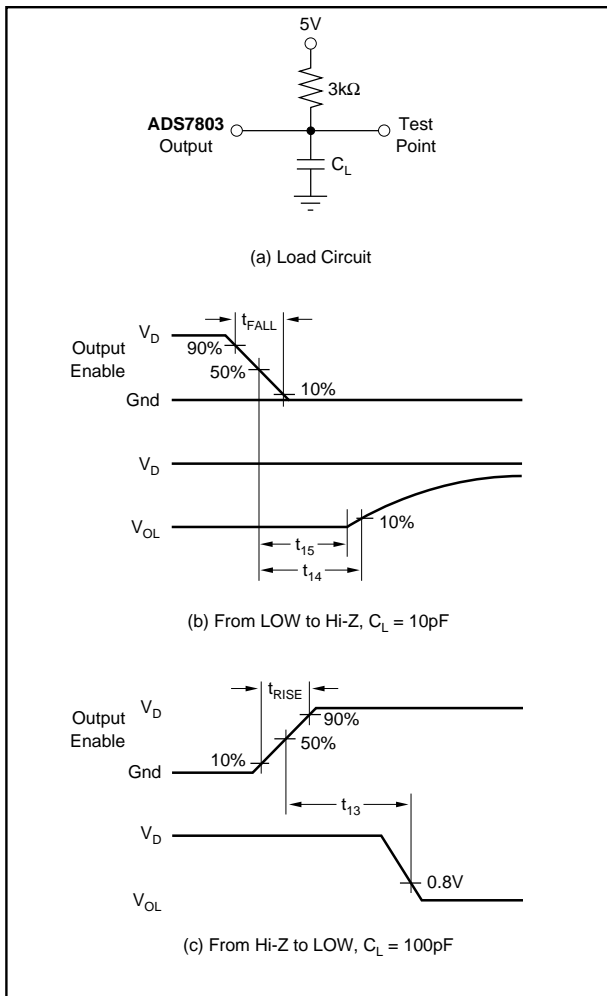

FIGURE 8. Measuring Active LOW to/from Hi-Z State.
NOTES: (1) All input control signals are specified with  $t_{\text{RISE}} = t_{\text{FALL}} = 20\text{ns}$  (10% to 90% of 5V) and timed from a voltage level of 1.6V. Data is timed from  $V_{\text{IH}}$ ,  $V_{\text{IL}}$ ,  $V_{\text{OH}}$  or  $V_{\text{OL}}$ . (2) The internal RD pulse is performed by a NOR wiring of  $\overline{\text{CS}}$  and RD. The internal WR pulse is performed by a NOR wiring of  $\overline{\text{CS}}$  and WR. (3) Figures 8 and 9 show the measurement circuits and pulse diagrams for testing transitions to and from Hi-Z states.